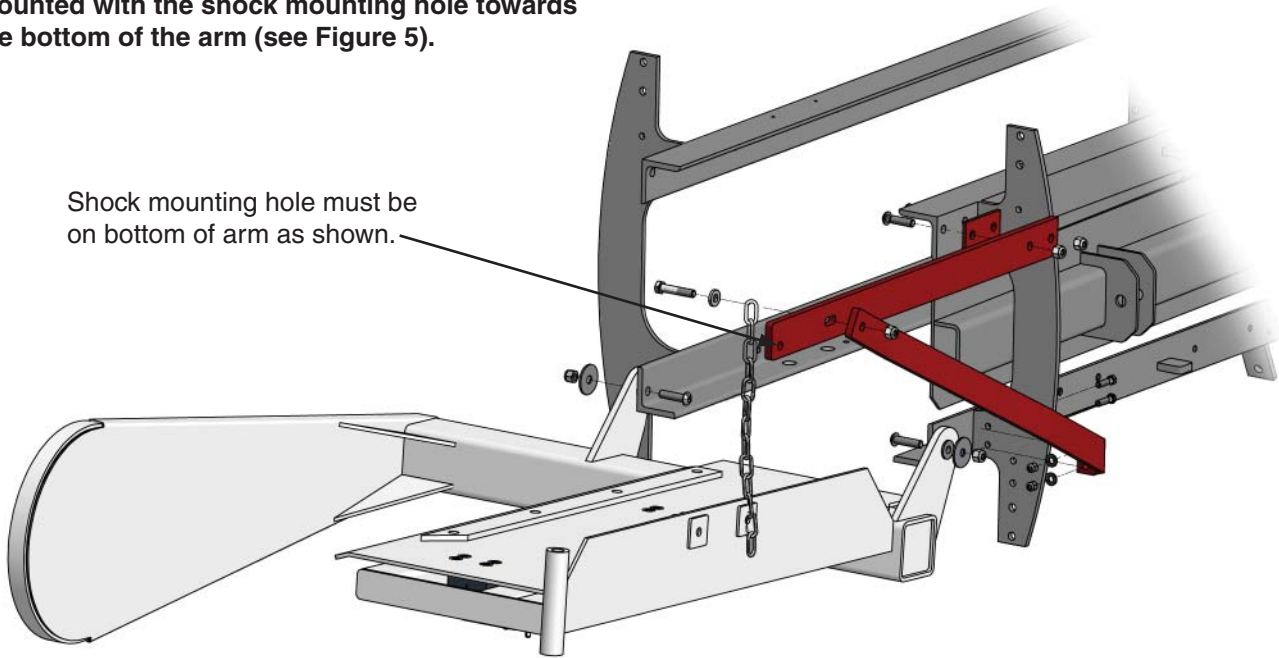

Figure 5 - Mount bale scale and support arms.
Using a forklift or similar lifting device, place the bale scale in position as shown in Figure 5. Attach with 1/2" capscrews, nuts and washers, and torque to 86 ft-lbs (117 N-m).
Mount support arms as shown in Figure 5, and attach with capscrews, nuts, and washers. Leave the capscrews loose for now.
**NOTE:** The shock absorber support arm must be mounted with the shock mounting hole towards the bottom of the arm (see Figure 5).